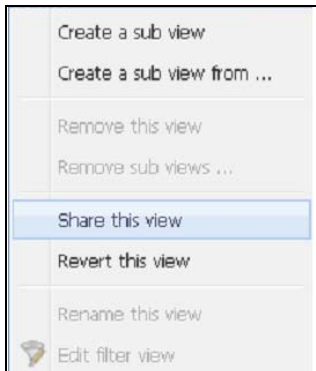

Figure 71. Contextual Subview Menu
1. Right-click the view to open the contextual menu and click **Share this View** (see Figure 71).